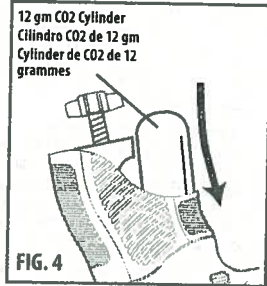

FIG. 4
4. Insert the small end of the CO2 cylinder into the grip. Hold the gun in an inverted position with the grip pointing up and the muzzle pointing away from you as shown (Fig. 4).